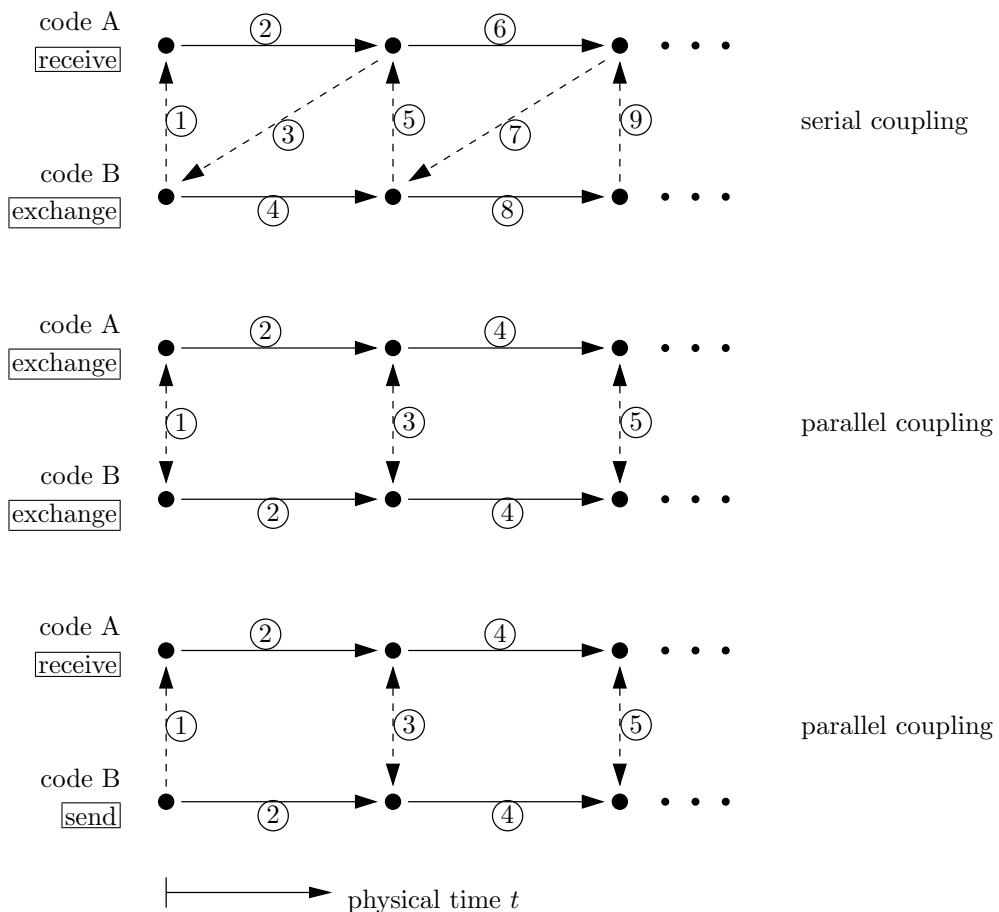

Figure 22: Initial exchange and resulting coupling algorithms for two codes with “exchange before solution”
In our example the parallel coupling algorithm is used with send (CFD) and receive (FE) as initial exchange mode (see Figure 22 bottom). The CFD code is represented by “code B” and the FE code by “code A”. Before starting the computation the CFD code sends the surface forces RelWallForce to the FE code (1). Then both codes compute in parallel their solution quantities pressure and deformation until the coupled target time is reached (2). Now the solution quantities are exchanged (3). Possible coupling algorithms are described in detail in ▷ V-3.4 Coupling Algorithms ◁.